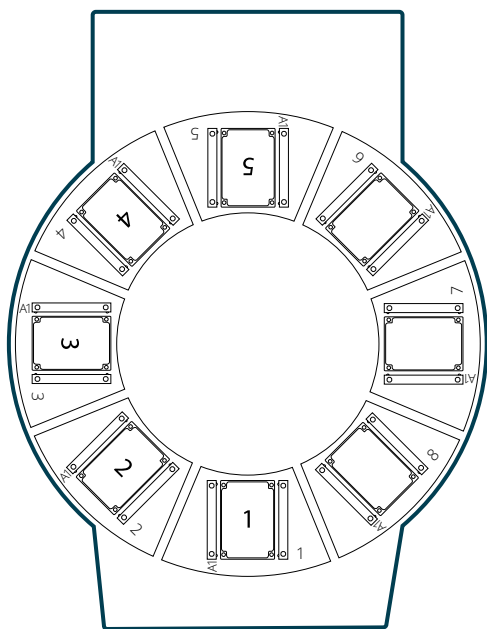

Figure 4: View from above on the plate positions in the CleanXtract 96.
7. Repeat this process for all the plates as indicated in Table 6 and Figure 4.
12. The protocol will now open, and it will show all the steps as shown in Figure 4.